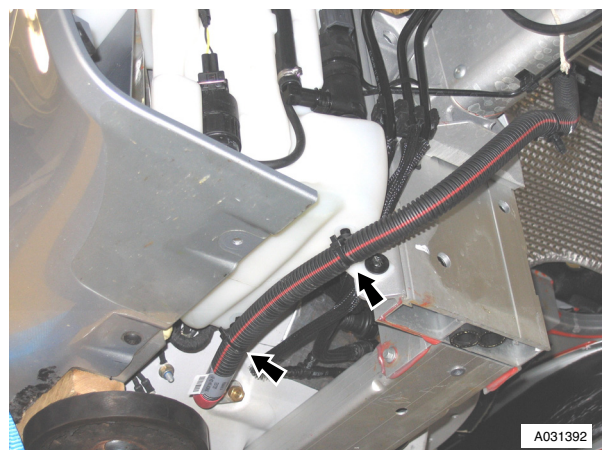

Fig. 2
6. Release battery cable clips (x2) from screen washer reservoir (see Fig. 2).